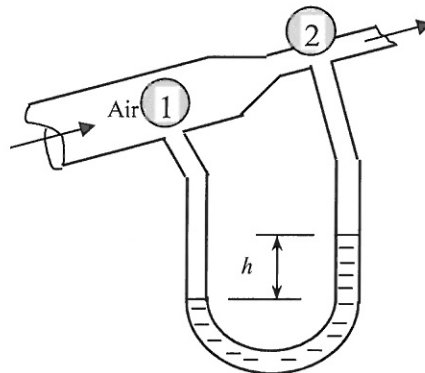

Figure 2
Air at 110 kPa and 50 °C flows upward through a 6 cm-diameter inclined duct at a rate of 0.045 m3/s. The duct diameter is then reduced to 4 cm through a reducer, as shown in figure 2. The pressure change across the reducer is measured by a water manometer. The elevation difference between the two points on the pipe where the two arms of the manometer are attached is 0.20 m. Determine the differential height between fluid levels of the two arms of the manometer. (20)